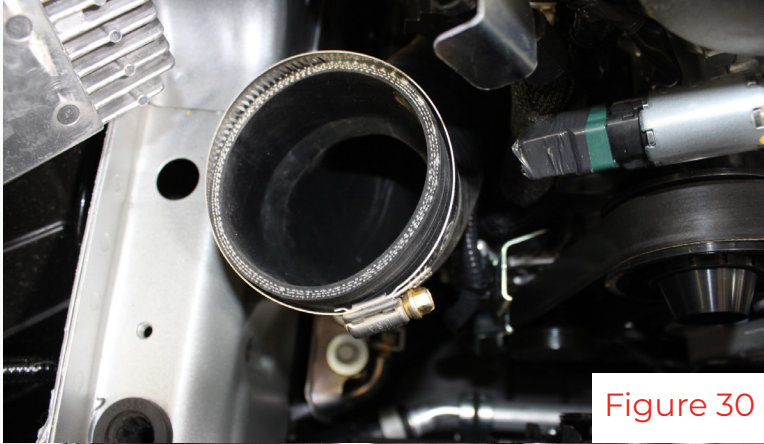

Figure 30
16. Locate the #48 clamp and position it on the silicone as seen in fig 30. Then, plug in the MAF sensor and clip the harness into the mounting tab (fig 31). Push the airbox into position in the grommet and make sure the silicone is fully seated. Tighten the clamp(fig 32).